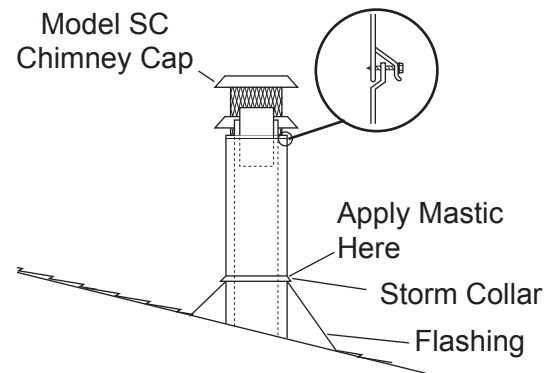

Figure 20 - Installing Storm Collar and Chimney Cap
6. Slide storm collar down snugly against the flashing until the excess mastic left in step six is forced up into crack between the storm collar and chimney. This will make the joint between the flashing and the chimney watertight. *See Figure 20.*
7. Place chimney cap into matching parts of the last chimney section. Push chimney cap down until the brackets on the bottom of the chimney cap sits on the chimney pipe. Punch or drill $\frac{1}{8}$ " diameter holes in the inlet air duct (chimney pipe) where specified on the brackets. Fasten chimney pipe down with the No. 8 screws provided. *See Figure 20.*